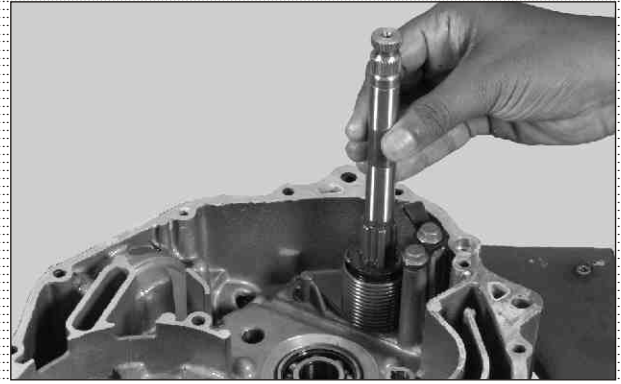

Fig. 3.106
- Pull out shaft kick starter along with shim, spring kick shaft return and guide kick starter spring. (Fig. 3.106)